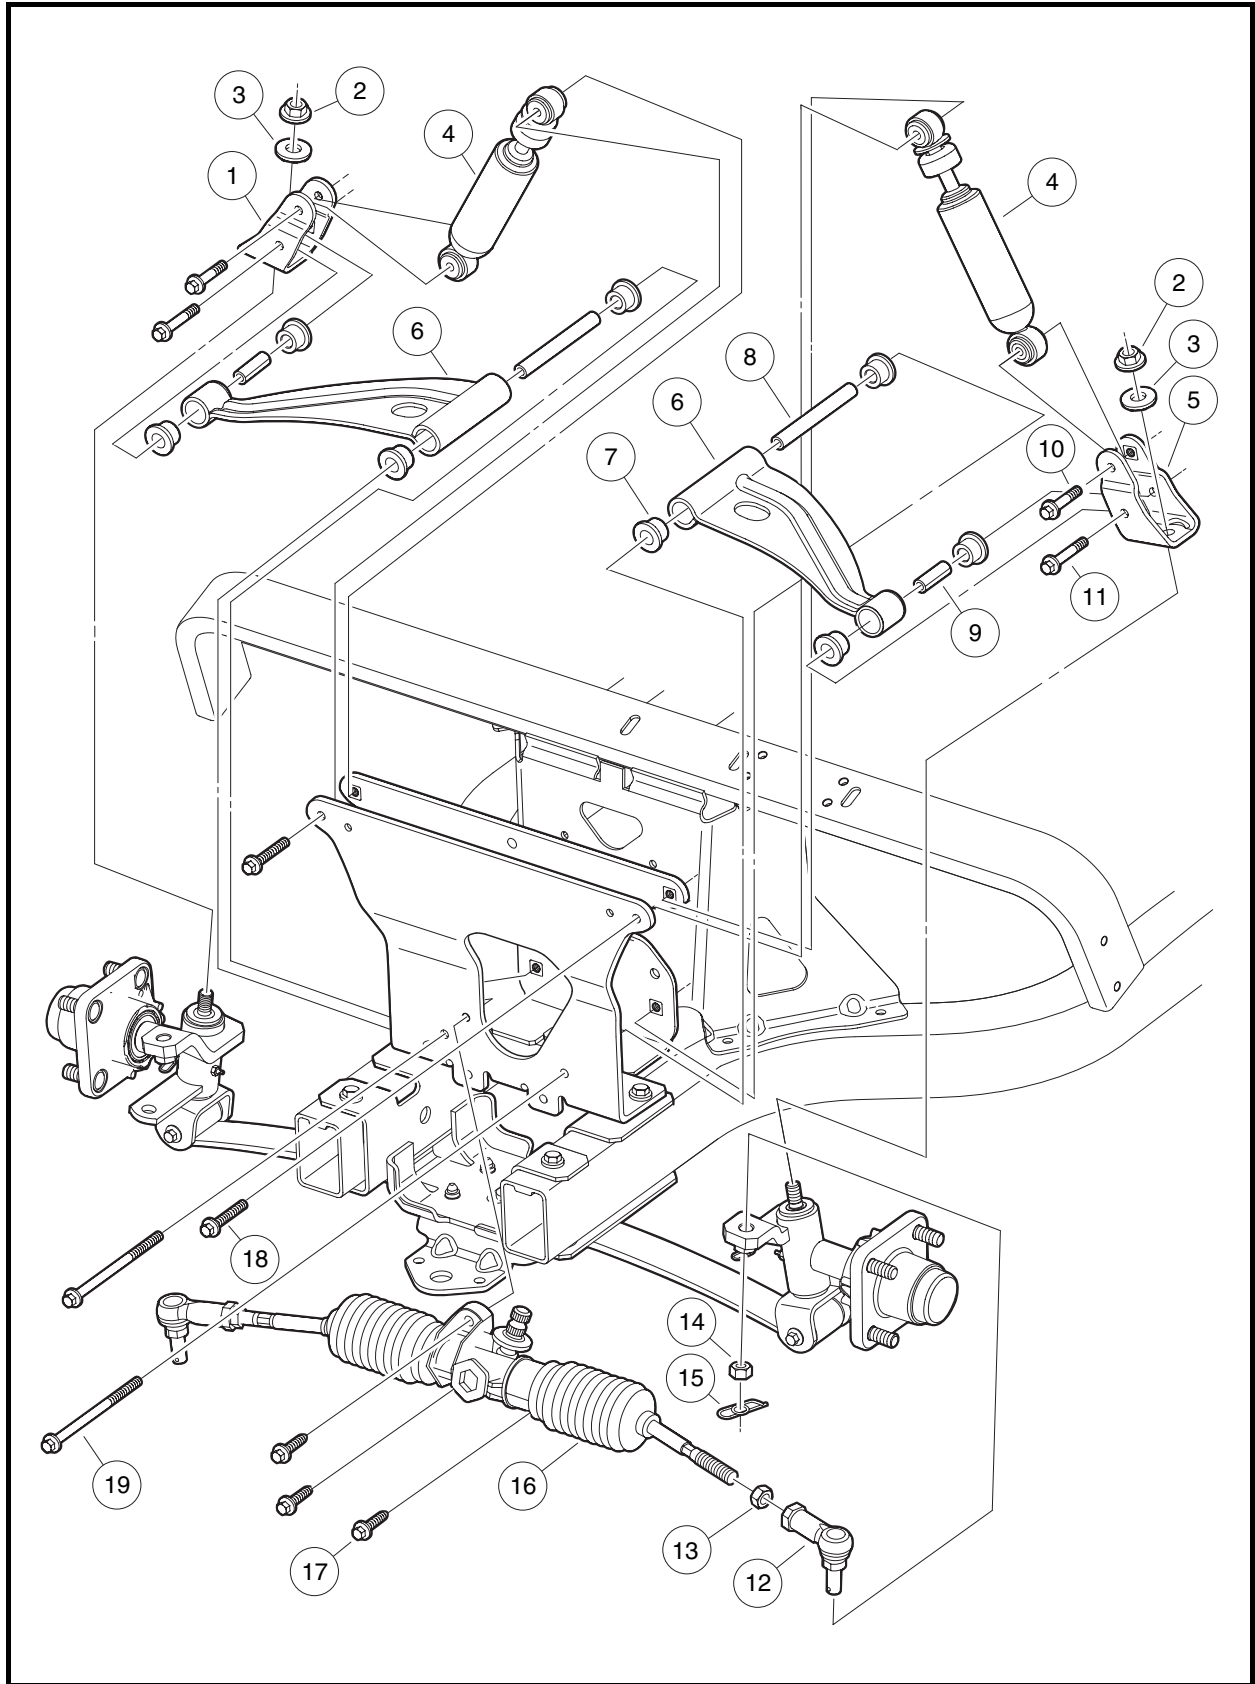

Figure 7-18 Upper Front Suspension Assembly
2. Remove retaining pins (15) and nuts (14), then remove tie rod ends (12) from the tabs on the spindles (**Figure 7-18, Page 7-15**).
5. Attach the tie rod ends (12) to the spindle tabs, then install and tighten the nuts (14) to 70 ft-lb (95 N·m). Install the retaining pins (15) (**Figure 7-18, Page 7-15**).
3. Remove bolts (17) and move rack and pinion to allow clearance for bolt (19) (**Figure 7-18, Page 7-15**).
5. Remove the control arm (6).
6. Inspect the bushings (7) and sleeves (8 and 9) in the control arm and replace them if necessary.
1. Install the control arm in reverse order of removal. Tighten the control arm bolts (11 and 19) to 30 ft-lb (41 N·m) (**Figure 7-18, Page 7-15**). Tighten three rack and pinion mounting bolts (17) to 22 ft-lb (30 N·m).
2. Remove the upper bolt (18) (**Figure 7-18, Page 7-15**).
3. Remove the lower bolt (10).